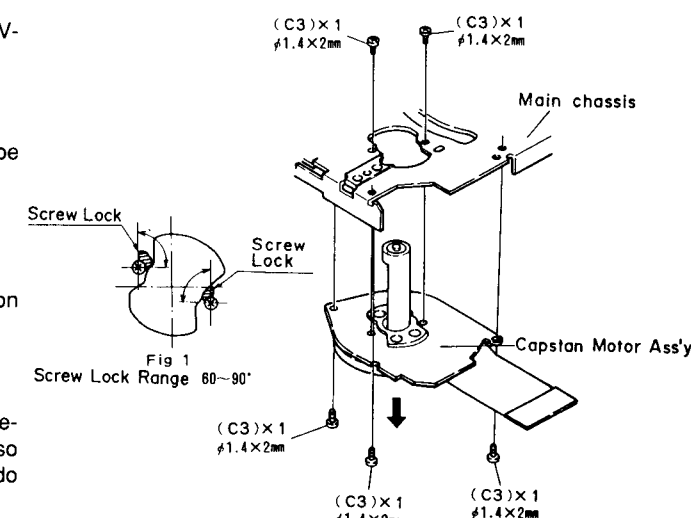

Figure 28-2
7. Remove the capstan motor assembly set screw (C3), 2 pcs., from the front side of main chassis, and remove the capstan motor assembly set screw, (C3), 3 pcs., from the rear side. (Fig. 28-2)